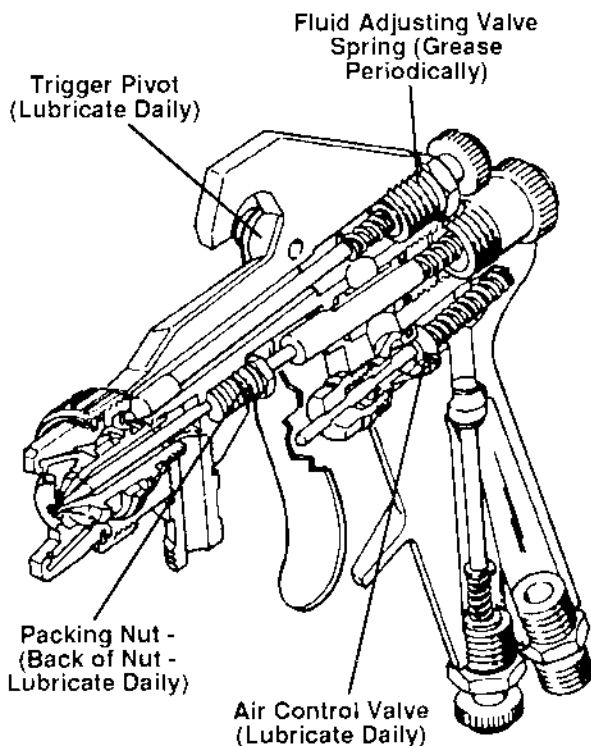

Figure 35. Maintenance Diagram
1. With a lightweight oil, lubricate the air spray gun daily at the points shown in figure 35. Periodically lubricate the fluid needle spring with a lightweight grease or petroleum jelly.